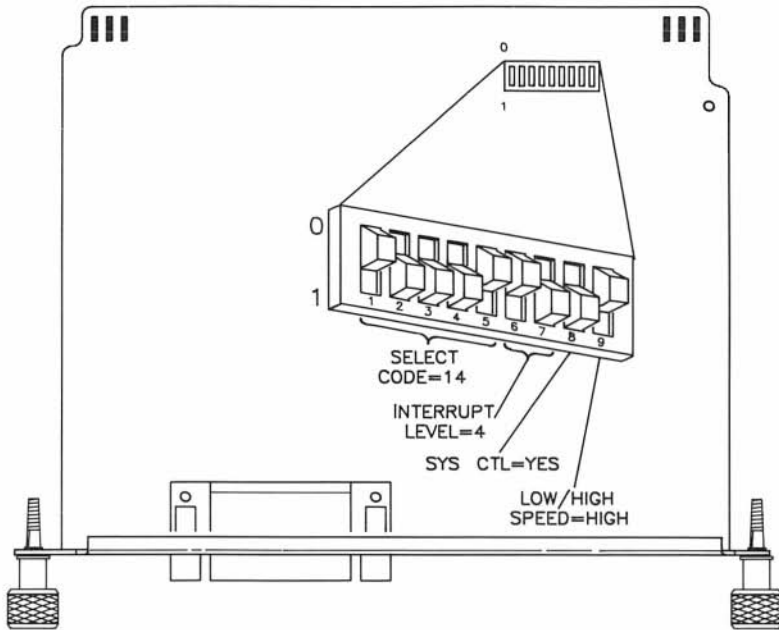

Figure 5-9. HP 98625B Disc Interface switches.
- a. Find the set of nine switches by referring to Figure 5-9. Switches 1 through 5 in this group determine the select code.
- a. Find the set of nine switches by referring to Figure 5-9. Switches 6 and 7 in this group determine the interrupt level.
- b. If using HP-UX, set these switches to interrupt level 4 as shown in Figure 5-9. To get interrupt level 4, set the left switch to **0** and the right switch to **1**. **Do not set any other interface (except for the HP 98629A SRM Interface) to interrupt level 4.**
- a. Find the set of nine switches by referring to Figure 5-9. Switch 8 in this group determines the system controller setting.
- b. If connecting two computers together via HP-IB, only one of them may be set to system controller. To change this interface to non-system controller, move the system controller switch shown in Figure 5-9 to the 0 position (the opposite of that shown).
The Low/High Speed switch is preset to **0**, “high speed,” as shown in Figure 5-9. This setting is appropriate for most applications. If you want to change this setting, continue with step 5; otherwise skip to step 6.
- a. Find the set of nine switches by referring to Figure 5-9. Switch 9 in this group is the Low/High Speed switch.
- To set this switch to “low speed,” set switch 9 to **1**, which is opposite of that shown in Figure 5-9.
- To set this switch to “high speed,” set switch 9 to **0** as shown in Figure 5-9.